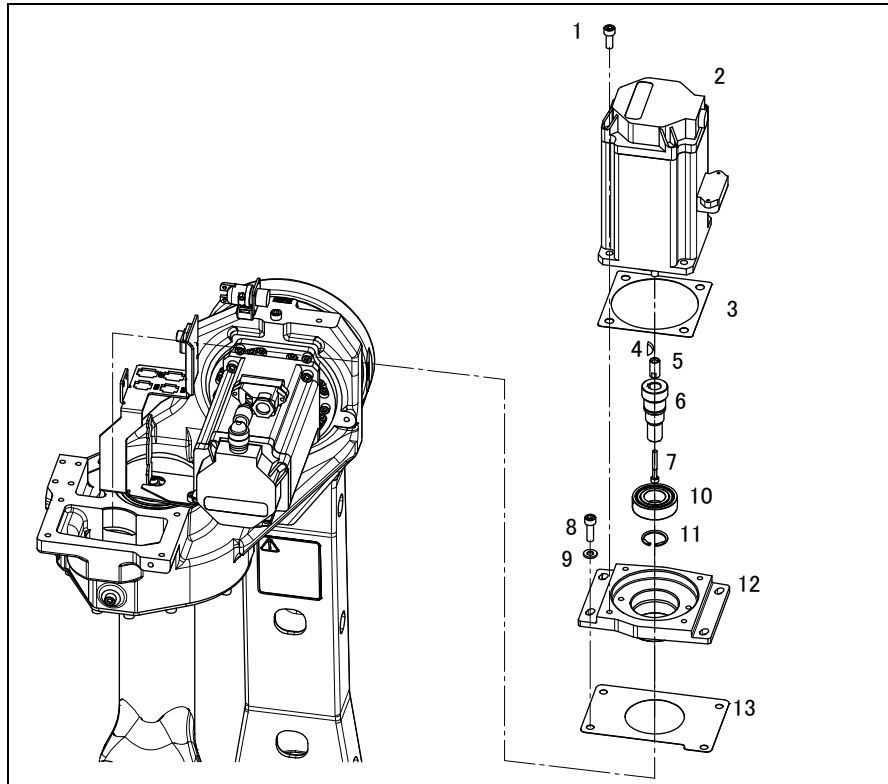

Fig.4.8 (a) Replacing the J4-axis motor
- 6 Remove bolts (8) and washers (9) and remove the motor with the motor adapter (12) from the J3 casing.
- 7 Remove the motor mounting bolts (1) and remove the motor (2) from the motor adapter (12) using the removal tap (M6) of the motor adapter.
- 8 Remove the bolts (7) which fasten the gear (6), and remove the gear (6). Then remove the draw nut (5) which is fastened to the motor shaft.
- 9 Apply LOCTITE 243 to the thread part of a new motor (2) shaft, and tighten the draw nut (5) with a torque of 3.1Nm.
- 10 Apply LOCTITE 243 to the M4 thread part of the draw nut (5), mount the gear (6) over the draw nut (5), then tighten the bolt (7) with a torque of 3.4Nm.
- 11 Apply LOCTITE 638 to the outer ring of the bearing (10). If bearing (10) is broken when removing the gear (6), remove the C ring (11) and replace by new one.
- 12 Mount the motor (2) to the motor adapter (12) with motor mounting bolts (1). In this time, replace the gasket (3) by new one.
- 13 Temporarily attach motor adapter (12) to the J3 casing with bolts (8) and washers (9). In this time, replace the gasket (13) by new one.
- 14 Press Fig.4.8 (b)'s area to J4-axis rotation center with 3 to 5kgf.
- 17 Tighten bolts (8) and washer (9) with a torque of 10.0Nm.